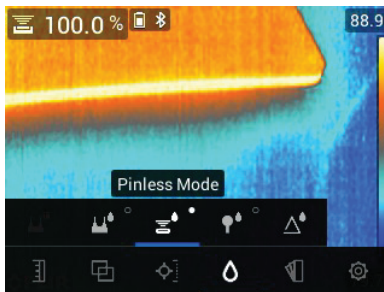

Figure 7.11 Pinless mode selection
- Select the pinless mode from the menu system (*Moisture mode/Pinless*); see **Figure 7-11** above).